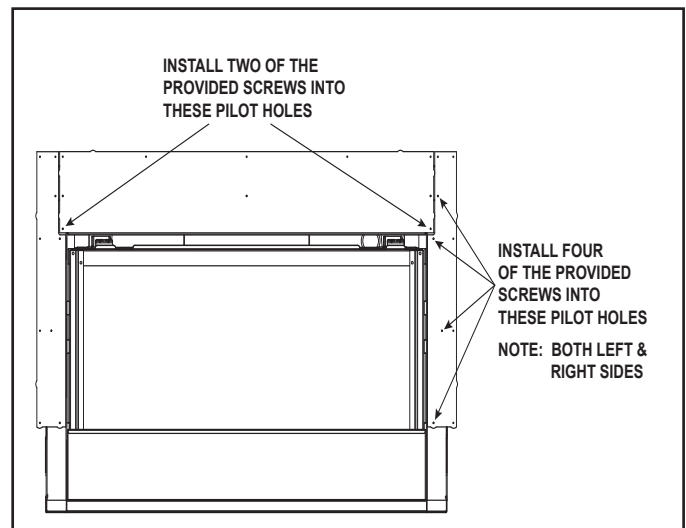

Figure 6.6 Proper Positioning, Leveling And Securing Of Appliance
4. Further secure the top non-combustible board by installing screws into the pilot holes located in the lower left and right corners as shown in Figure 6.6.
5. Install the left and right non-combustible components with four of the provided Phillips screws. See Figure 6.6.